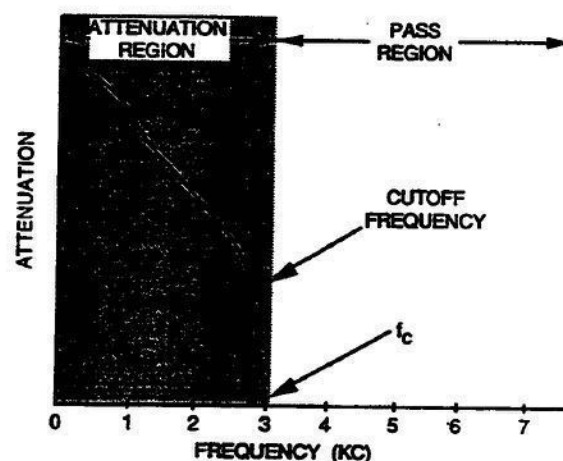

Figure 3-30. High-pass filter characteristics.
**High-pass filters.** A *high-pass* filter permits the passage of frequencies from a predetermined frequency (not zero) up to infinite frequencies, but attenuates all others. Figure 3-30 shows the frequency characteristics of a high-pass filter. Attenuation is plotted vertically and frequency is plotted horizontally. The attenuation region is from zero to the cutoff frequency,  $f_c$ ; the pass region is from the cutoff frequency to infinite frequencies. As with a low-pass filter, the attenuation in the pass region is not actually zero, but a small, negligible amount.